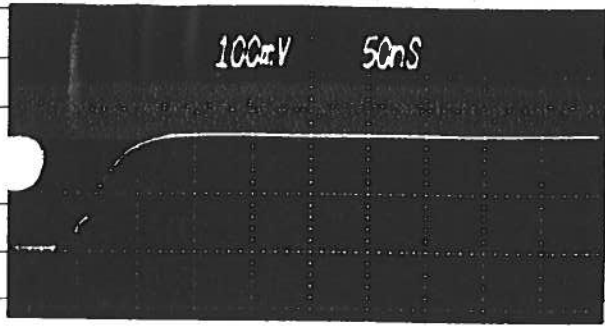

Fig 2
- 8) Increase AMP 2 to near maximum to obtain display shown in Fig. 2 (adjust DELAY and scope set-up to center waveform display on CRT). With 40 db attenuation on the test jig, the scope reads 10 volts per div (or 200 mA per div). Therefore, set to 2 div to obtain $I_F = 400$ mA. Note that the coupling of OUT 2 to OUT 1 results in the increase of the rise time of OUT 2 to more than 5 ns. This is due entirely to C_B in the test jig. For